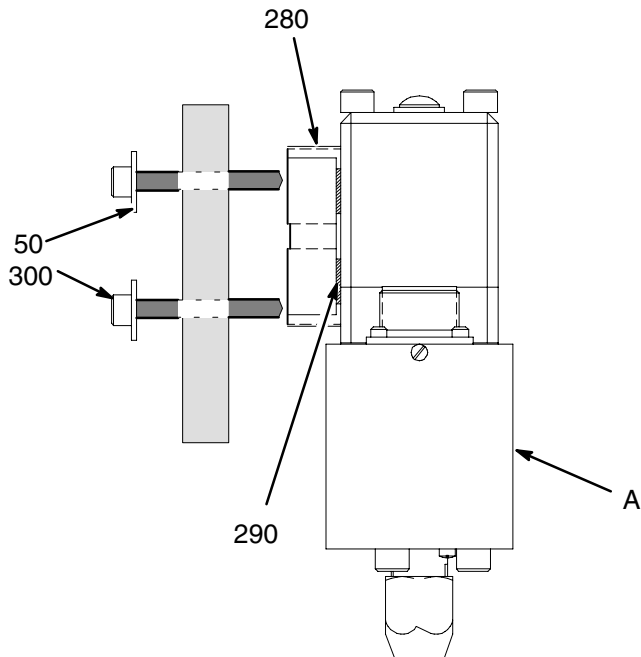

Fig. 1
Mount the automatic dispense valve to the mounting bracket on a stationary support or robotic arm (Fig. 1), using two socket head screws (300) and two flat washers (50). Be sure to position the insulation block (280) and insulation tape (290) between the dispense valve and the mounting bracket.